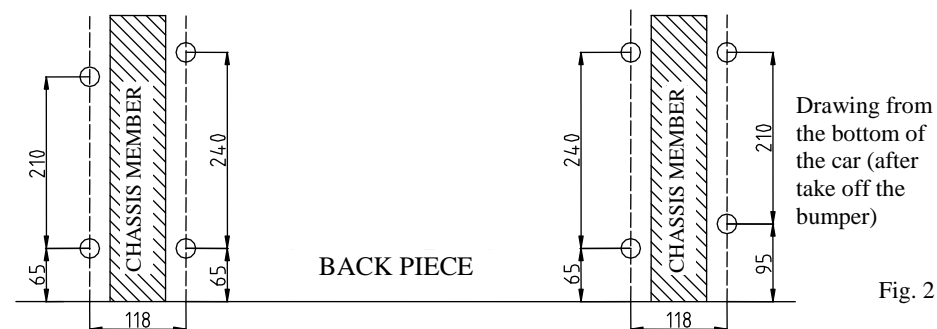

Fig. 2
3. Point out holes from the bottom of the car according to the fig. 2 (above). Then drill holes $\varnothing 11\text{mm}$ (drillings fall out in places of the pressure welding of chassis members with the floor of the car) – make carefully and precisely.
4. Apply properly large fish-plates (pos. 4 and 6) onto made holes (inside the trunk).